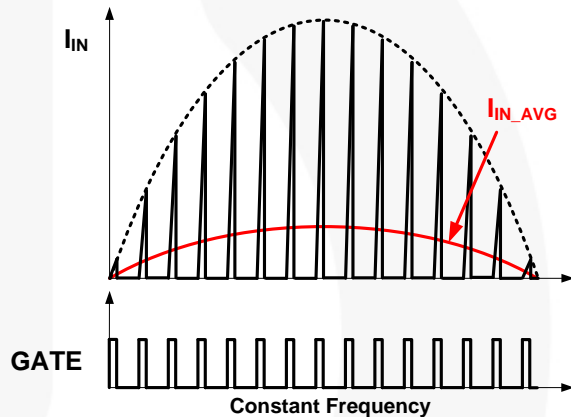

Figure 18. Input Current and Switching
In a conventional boost converter, Boundary Conduction Mode (BCM) is generally used to keep input current in phase with input voltage for power factor (PF) and Total Harmonic Distortion (THD). However, in flyback / buck boost topology, constant turn-on time and constant frequency in Discontinuous Conduction Mode (DCM) can implement high PF and low THD, as shown in Figure 18. Constant turn-on time is maintained by an internal error amplifier and a large external capacitor (typically  $>1\mu\text{F}$ ) at the COMI pin. Constant frequency and DCM operation are managed by linear frequency control.